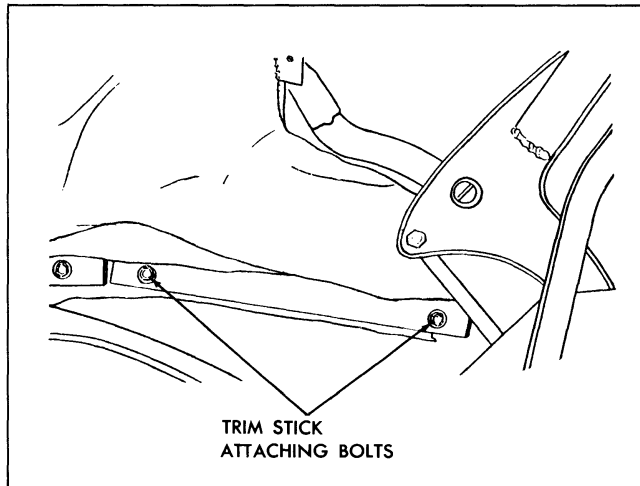

Fig. 22-31 Rear Quarter Trim Stick
6. At each rear quarter area remove attaching bolts and washer securing rear quarter trim stick assembly to rear quarter inner panel (Fig. 22-31).